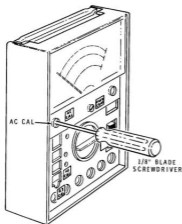

Figure 3
- ( ) Refer to Figure 3. Then use a 1/8" blade screwdriver and adjust the "AC CAL" control (R6 on the Schematic) so the meter indicates the line voltage in your area. (In the United States this is usually at or close to 120 VAC.)